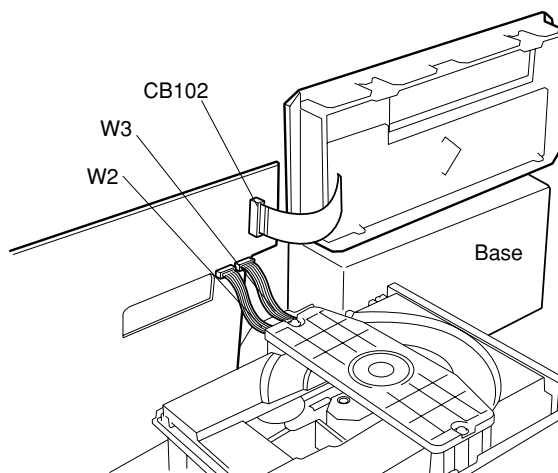

Fig. 6
- i. Connect W2 and W3 to the CD Mechanism as shown in Fig. 6.
- j. Place the front panel on the base as shown in Fig. 6.
- k. Connect CB102 as shown in Fig. 6.